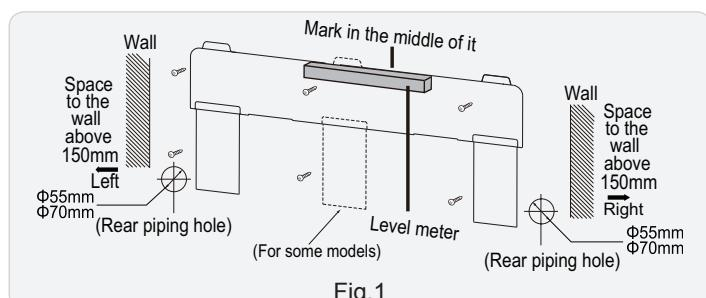

Fig.1
(1) Choose the position of piping hole according to the direction of outlet pipe. The position of piping hole should be a little lower than the wall-mounted frame, shown as below.(As show in Fig.1)